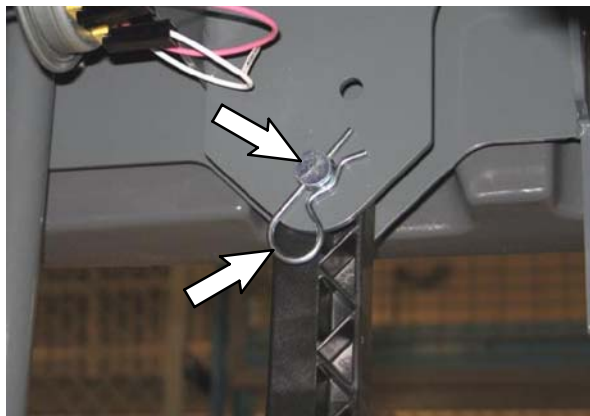

FIG. 8
- Remove both scrub head lift arms from the frame of the machine. Set the scrub head lift arms aside. Discard the cotter pins and clevis pins removed in this step. Refer to Fig. 8.